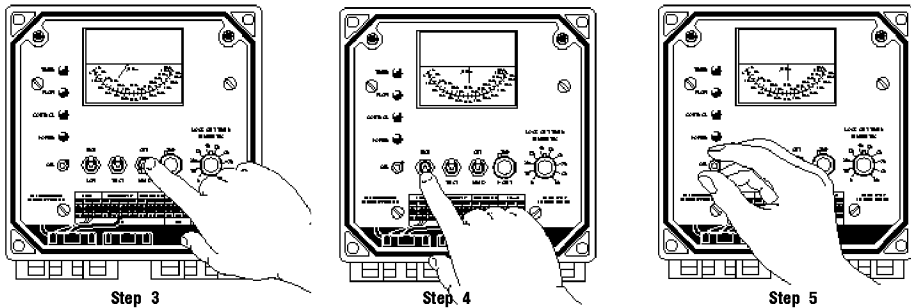

Fig. 7, System Calibration
3) Position Set/Read Switch in the "Read" position (See Fig. 7, Step 3).
4) Set the scale switch to either the high (5000 $\mu\text{s}/\text{cm}$) or Low (2500 $\mu\text{s}/\text{cm}$) setting (See Fig. 7, Step 4).
5) Adjust Cal Adjust knob until the meter on ACT matches the reading on the calibrated hand held meter. Your unit is now calibrated (See Fig. 7, Step 5).